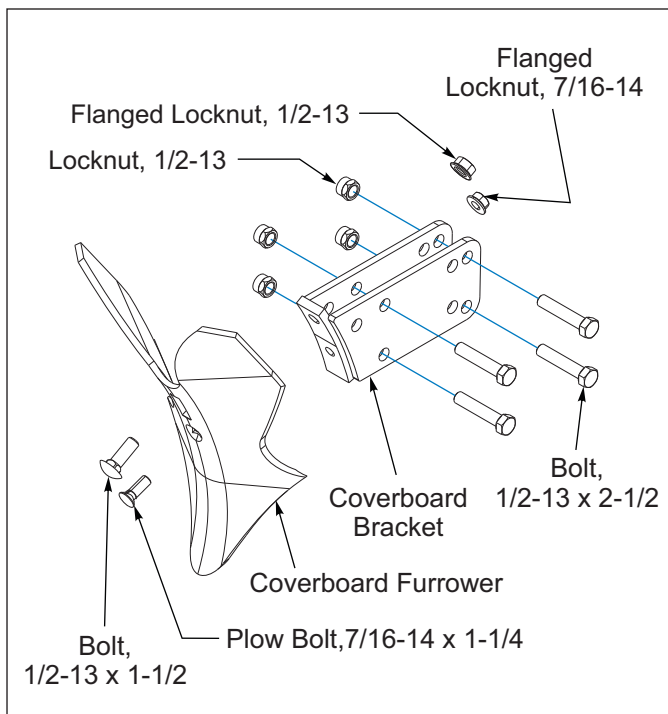

Figure 3-3: Coverboard Installation
2. Tighten the 7/16-14 Flange Nut to the 7/16-14 x 1-1/4 Plow Bolt before tightening the 1/2-13 Locknut to the 1/2-13 x 1-1/2 Roundhead Bolt. This is to ensure that the point of the Coverboard Furrower is pulled tightly against the Bracket. Make sure that the Plow Bolt Head is flush with the surface of the Coverboard Furrower. **See Figure 3-3.** This hardware should be tightened now.